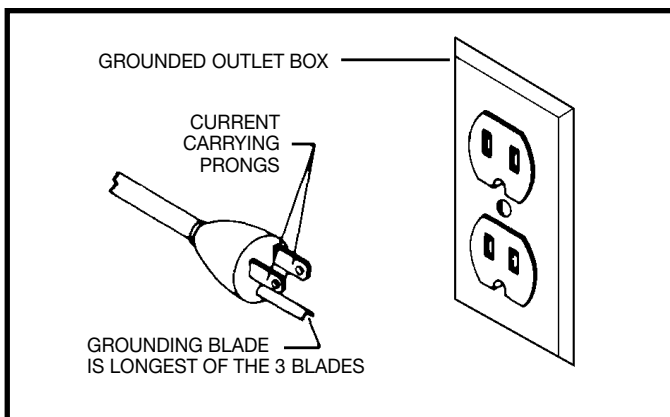

Fig. 9
Use only 3-wire extension cords that have 3-prong grounding type plugs and 3-hole receptacles that accept the tool's plug, as shown in Fig. 9.
2. Grounded, cord-connected tools intended for use on a supply circuit having a nominal rating less than 150 volts: This tool is intended for use on a normal 120-volt circuit and has a grounded plug that looks like the plug illustrated in Fig. 9.